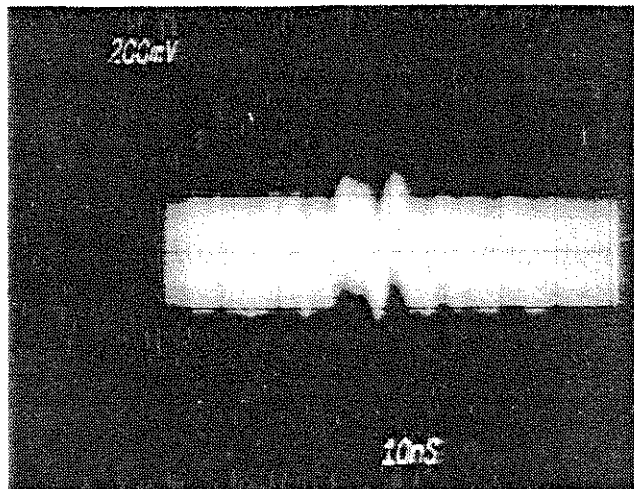

Fig. 4-7 Waveform to adjust 1st A/D linearity
- h. **ADJUST** R250 and R260 on A18/CH1 (A18/CH2) so the center pulsed portion of the waveform is centered about 0 V and the display image has the least amount of fuzziness (Figure 4-7). In some cases, the pulsed portion is level or lower than the flat portion.